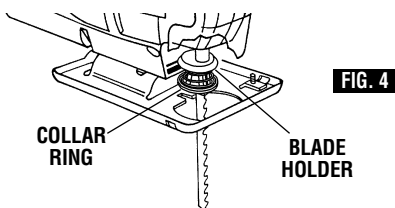

FIG. 4
2. Insert blade to full depth with teeth facing in direction of cut as shown in (Fig. 4).